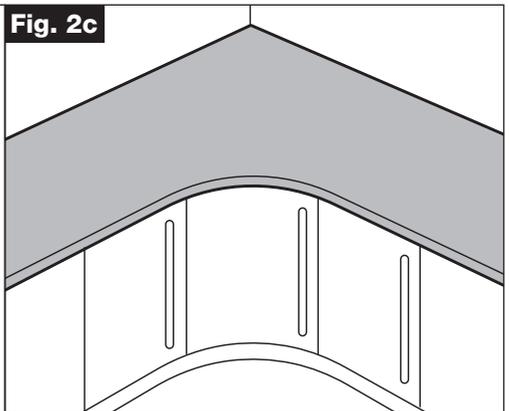

Fig. 3
- 'Raw' Faces – Cut will blend with existing worktop edges (Fig. 3).